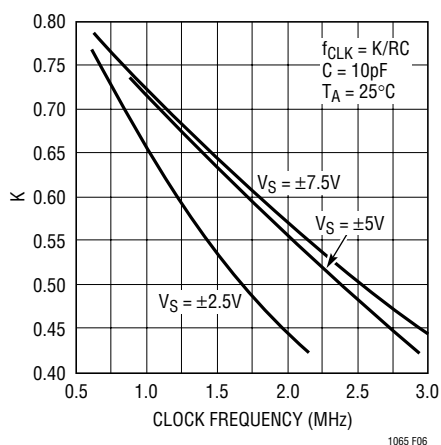

Figure 6. f_{CLK} vs K
For a limited temperature range, the internal oscillator of the LTC1065 can be used to generate clock frequencies above 500kHz (Figures 6 and 7). The data of Figure 6 is derived from several devices. For a given external (RC) value, the observed device-to-device clock frequency variation was $\pm 1\%$ ($V_S = \pm 5\text{V}$), and $\pm 1.25\%$ for $V_S = \pm 2.5\text{V}$.
from Figure 6, $K = 0.575$,